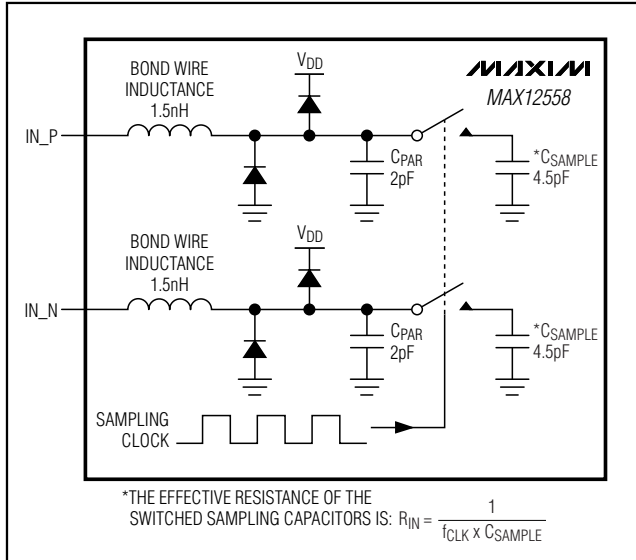
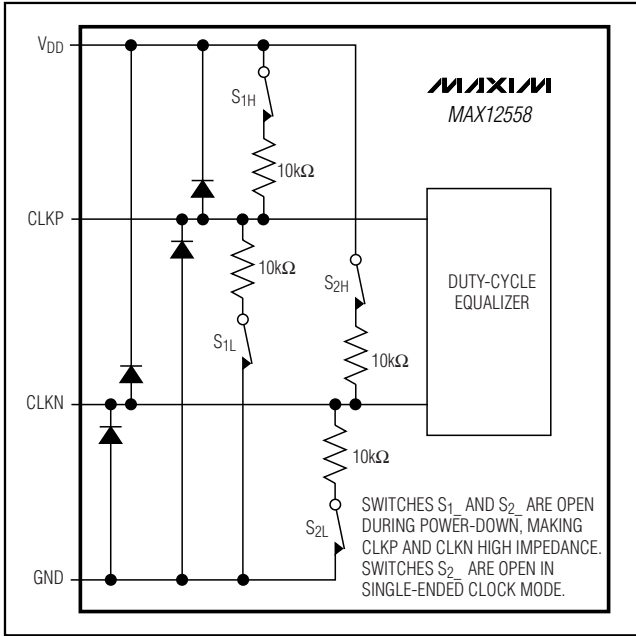

Figure 3. Internal T/H Circuit
Figure 4. Simplified Clock Input Circuit
Figure 3 displays a simplified functional diagram of the input T/H circuit. This input T/H circuit allows for high analog input frequencies (high IF) of 175MHz and beyond and supports a $V_{DD} / 2$ common-mode input voltage.
The MAX12558 sampling clock controls the switched-capacitor input T/H architecture (Figure 3) allowing the analog input signals to be stored as charge on the sampling capacitors. These switches are closed (track mode) when the sampling clock is high and open (hold mode) when the sampling clock is low (Figure 4). The analog input signal source must be able to provide the dynamic currents necessary to charge and discharge the sampling capacitors. To avoid signal degradation, these capacitors must be charged to one-half LSB accuracy within one-half of a clock cycle. The analog input of the MAX12558 supports differential or single-ended input drive. For optimum performance with differential inputs, balance the input impedance of IN_P and IN_N and set the common-mode voltage to mid-supply ($V_{DD} / 2$). The MAX12558 provides the optimum common-mode voltage of $V_{DD} / 2$ through the COM output when operating in internal reference mode and buffered external reference mode. This COM output voltage can be used to bias the input network as shown in Figures 9, 10, and 11.
The MAX12558 accepts both differential and single-ended clock inputs with a wide 25% to 75% input clock duty cycle. For single-ended clock input operation, connect DIFFCLK/SECLK and CLKN to GND. Apply an external single-ended clock signal to CLKP. To reduce clock jitter, the external single-ended clock must have sharp falling edges. For differential clock input operation, connect DIFFCLK/SECLK to OVDD. Apply an external differential clock signal to CLKP and CLKN. Consider the clock input as an analog input and route it away from any other analog inputs and digital signal lines. CLKP and CLKN enter high impedance when the MAX12558 is powered down (Figure 4).
- 1) INAP/B, INAN/B analog inputs are disconnected from the internal input amplifier (Figure 3).
- 6) CLKP, CLKN clock inputs enter a high-impedance state (Figure 4).